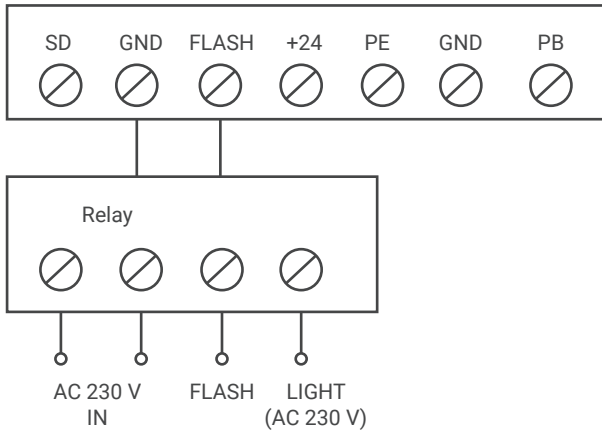
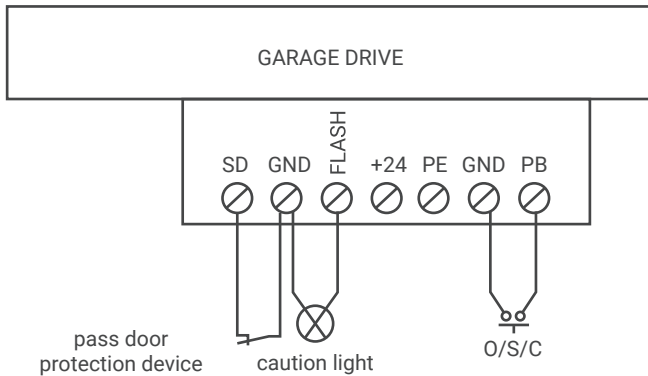

Fig. 18
Fig. 19
The O / S / C input can be used to control the drive using an external switch. The switch must have normally open voltage-free contacts (Fig. 19).
- 1. **The O / S / C input** allows you to connect a switch to control the drive (Fig. 19).
- 2. **The signal lamp** (Fig. 18 and Fig. 19).
- 3. **Pass door protection** (Fig. 19).
The drive is equipped with a mechanism for disconnecting the drive, which allows you to manually open or close the gate in the event of power failure or drive failure (Fig. 19). To disconnect the drive, pull the handle. To re-engage the drive, simply close the latch of the drive disconnect mechanism and then move the gate manually or start the drive until the latch locks on the belt or chain.